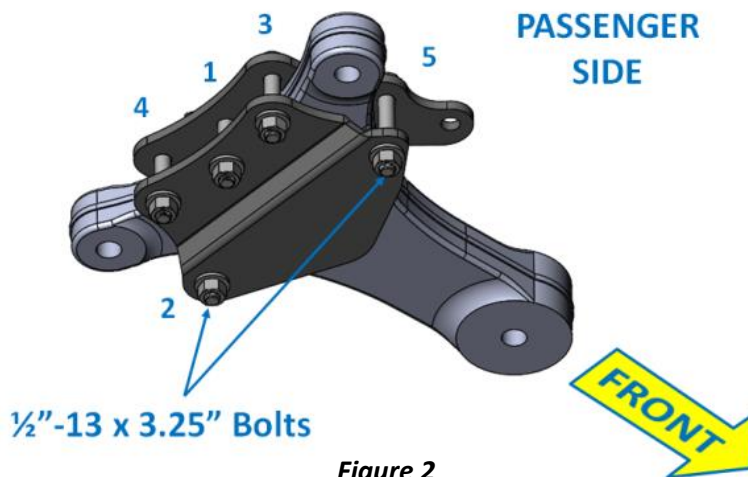

Figure 2
- The 3-1/4" long bolts go in the outermost holes (Figure 2)
4. With the 1/2" bolts loosely installed, tighten each nut in a star pattern in the order shown in Figure 2, working up to **60 ft-lbs**